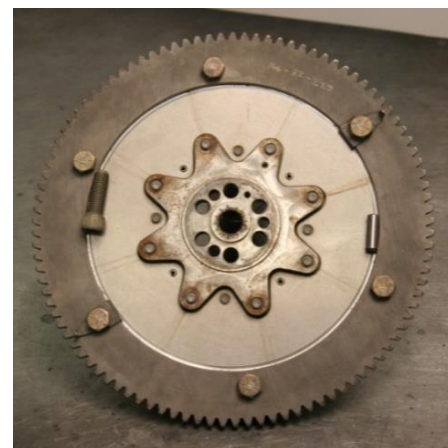

Figure 65 – Starfish Flywheel
- Current engines use a steel adaptor between the crankshaft and the flywheel, called a “starfish” because of its shape (shown in Figure 65). While not mandatory it is strongly recommended that at overhaul engines are updated to this arrangement. The aluminium flywheel and alternator rotor are among the parts required for the update – contact Jabiru Aircraft for details.